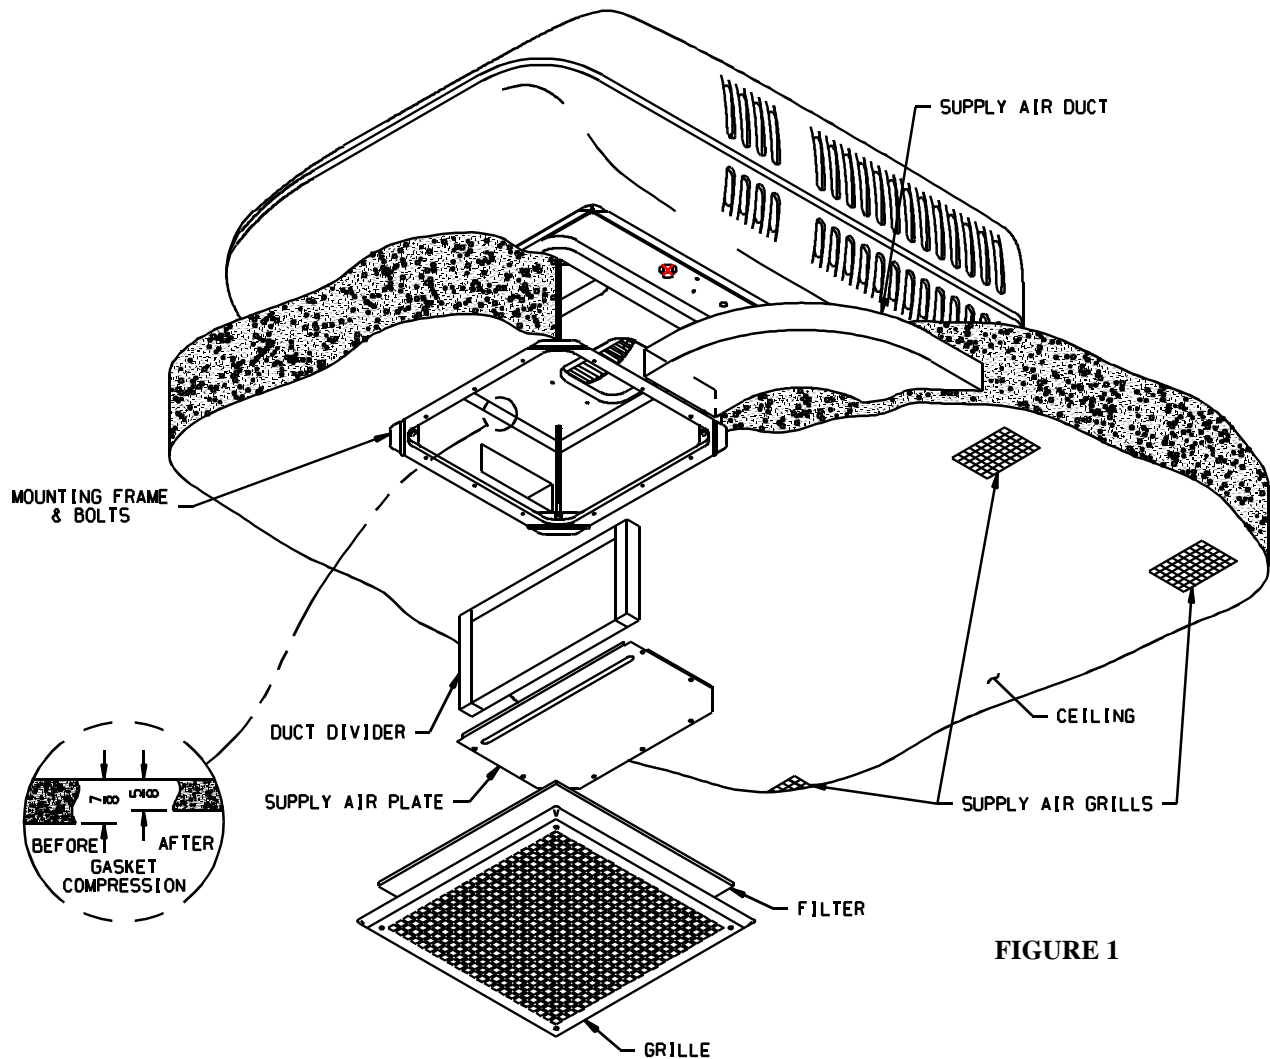

FIGURE 1
1. The field fabricated supply ducting must attach to both sides of the ceiling plenum. A minimum of two ducts are required, with one duct attached to each side of the plenum (See Figure 1).
A. Mounting (Refer to Figure 1)
2. Position the mount frame into the ceiling opening (See Figure 1).
3. Using the four bolts provided, secure the mount frame to the roof top unit. The four mounting bolts are to be applied up through the bottom of the mount frame and into the bottom of the roof top unit (See Figure 1).
B. Refer to Figure 1